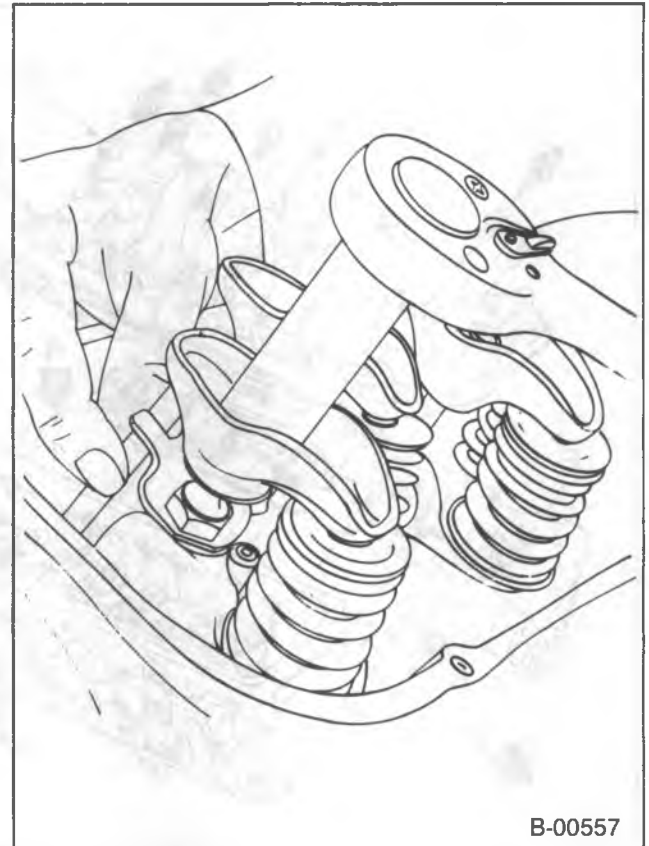

Figure 73—Adjusting the Valves
4. Back out the adjusting nut until lash is felt at the pushrod then turn in the adjusting nut until all lash is removed. This can be determined by rotating the pushrod while turning the adjusting nut (figure 73). When the play has been removed, turn the adjusting nut in as follows: